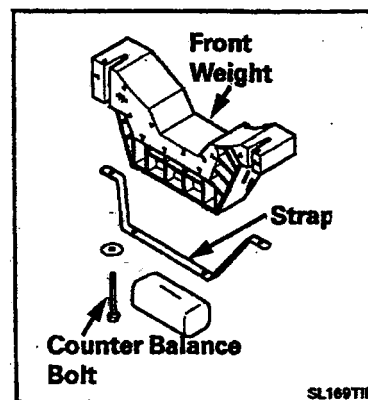

Figure 2-48
- Remove the two bolts securing the weight to the outer tub assembly. Use a 9/16" socket (Figure 2-48).